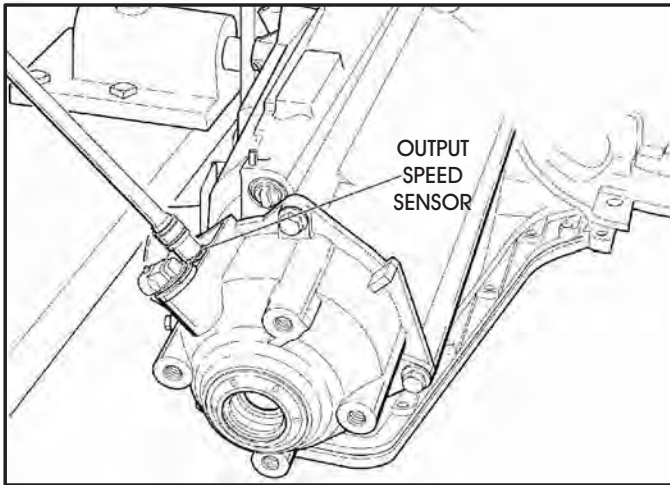

Figure 36
10. Remove output speed sensor from extension housing, as shown in Figure 36.